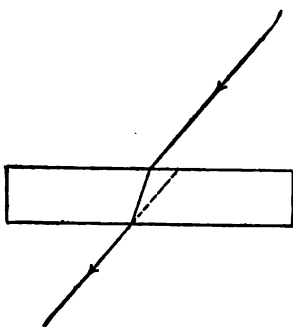
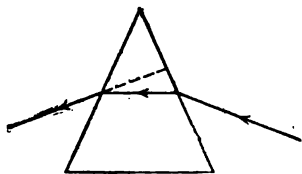

FIG. 370.—The incident ray and the emergent ray are parallel.
FIG. 371.—Effect of a prism upon a ray of light.
**380. Plates, Prisms, Lenses.**—The refraction of light is usually observed when it is passing through a plate, a prism, or a lens. The important differences between the effects of each in refracting light are illustrated in Figs. 370, 371 and 372. In Fig. 370 it is seen that the refraction of the ray on entering the glass is counteracted by the refraction away from the perpendicular upon leaving it. So that the entering and emergent rays are *parallel*. In Fig. 371 the refraction at the two surfaces of the prism results in a change of direction of the ray, the course being bent toward the *thicker* part of the *prism*. In